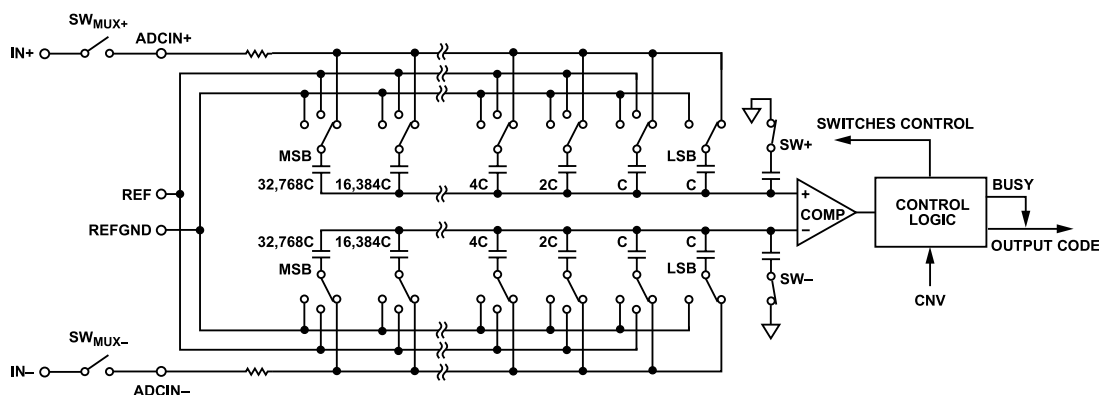
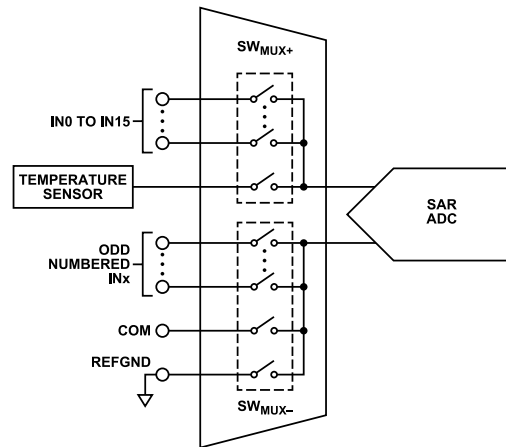
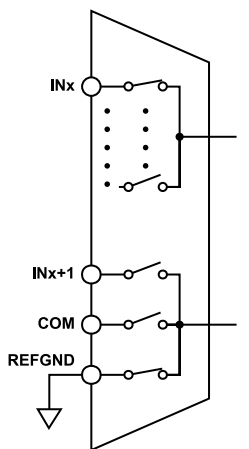

Figure 64. ADC Simplified Schematic
Figure 68. Multiplexer Simplified Schematic
Figure 69. INx Paired with REFGND
The AD4695/AD4696 contain an SAR-based ADC core that utilizes a charge redistribution digital-to-analog-converter (DAC) to quantize the applied input voltage to an output code. Figure 64 shows a simplified schematic of the AD4695/AD4696 SAR ADC core.
The analog inputs and the temperature sensor are connected to the capacitor array inputs (ADCIN+ and ADCIN-) via the internal low crosstalk multiplexer, represented by SW_{MUX+} and SW_{MUX-} in Figure 64. The multiplexer switches are controlled by the internal channel sequencing logic and are updated once per conversion (see the Multiplexer section and the Channel Sequencing Modes section).
A low crosstalk analog multiplexer routes the signals from the analog input pins to the ADC core inputs. The impedance of the analog inputs is modeled as the parallel combination of the pin capacitance (C_{PIN}) and the network formed by the series connection of R_{IN} and C_{DAC} . R_{IN} represents the ADC input series resistance and the multiplexer switch resistance and is typically 240 Ω . C_{DAC} represents the ADC sampling capacitive DAC shown in Figure 64, and is typically 60 pF.
The AD4695/AD4696 contain a flexible, low crosstalk analog multiplexer for selecting from the 16 analog inputs and internal temperature sensor and routing them to the inputs of the 16-bit, pseudo differential SAR ADC core. Figure 68 shows a simplified schematic of the internal multiplexer. The SW_{MUX+} and SW_{MUX-} switches shown in Figure 64 and Figure 68 represent the multiplexer switches that route the selected channel to the ADC inputs (labeled $ADCIN+$ and $ADCIN-$ in Figure 64). SW_{MUX+} and SW_{MUX-} are break-before-make and are controlled by the internal channel sequencing logic (see the Channel Sequencing Modes section).
The multiplexer allows flexible analog input channel configuration. The SW_{MUX-} position is user programmable, and can be assigned to any of the pins shown in Figure 68 (see the Channel Configuration Options section).
The channel configuration settings include pin pairing assignments and signal polarity modes. The pin pairing options assign the position of SW_{MUX-} for each position of SW_{MUX+} and determine which signal is routed to the negative side of the SAR ADC core ($ADCIN-$ in Figure 64). The signal polarity modes configure the $ADCIN-$ voltage range. Figure 69 shows the pin pairing and voltage ranges for the different channel configuration options.
- ▶ Figure 69, IN0 to IN15 paired with REFGND
When the temperature sensor is selected, the multiplexer $\text{SW}_{\text{MUX}+}$ switch (see Figure 68) selects the temperature sensor output and its $\text{SW}_{\text{MUX}-}$ switch selects REF_GND, and the SAR ADC core samples V_{TEMP} to generate a corresponding output code. The analog-to-digital conversion of the temperature sensor output utilizes the same transfer function as an analog input configured in unipolar mode with $\text{OSR} = 1$ (see the Transfer Function section).